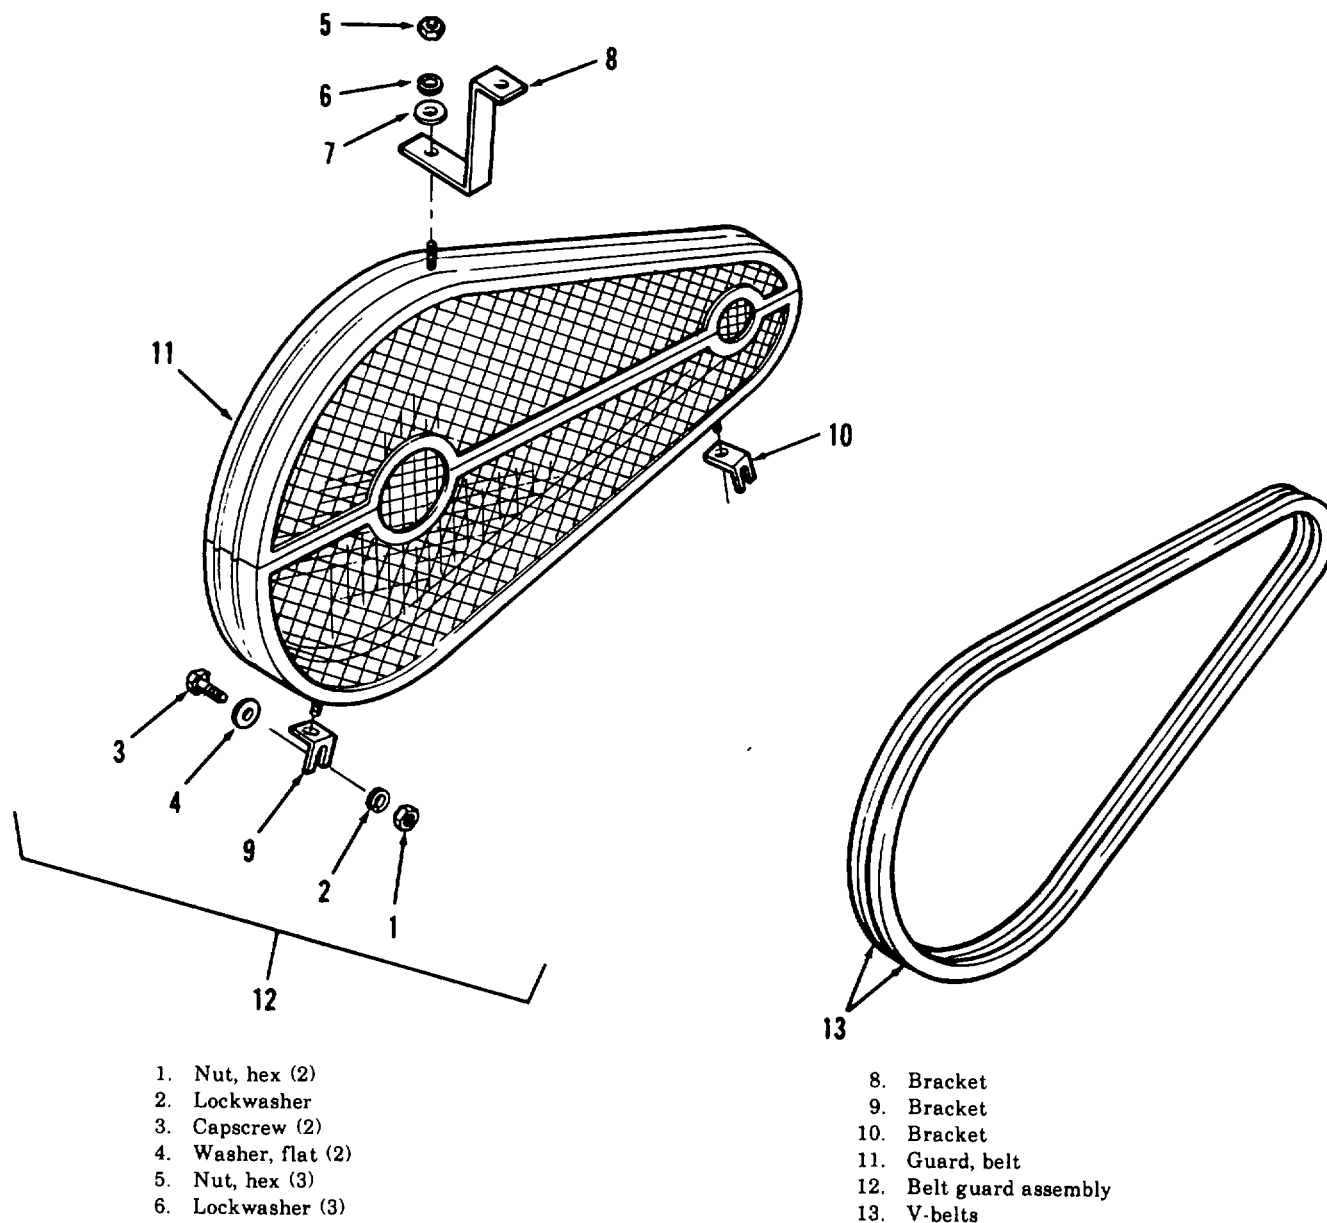

Figure 3-2. Belt guard assembly.
a. **General.** The belt guard assembly (fig. 3-2) is a two piece guard that totally encloses the drive belts and pulleys. The mesh screening covers the flywheel fan used to circulate air for cooling the compressor unit.
- (1) Turn ON-OFF switch to OFF.
- (2) Open drain cock at bottom of the air receiver tank (fig. 3-2) under the service line.
- (3) When the air has escaped, leave drain cock open for a few minutes to allow more of condensate to escape.
- (4) Close drain cock.
- (5) Be sure that all rags, tools, etc., have been removed from the air receiver, then move the ONOFF switch to ON.